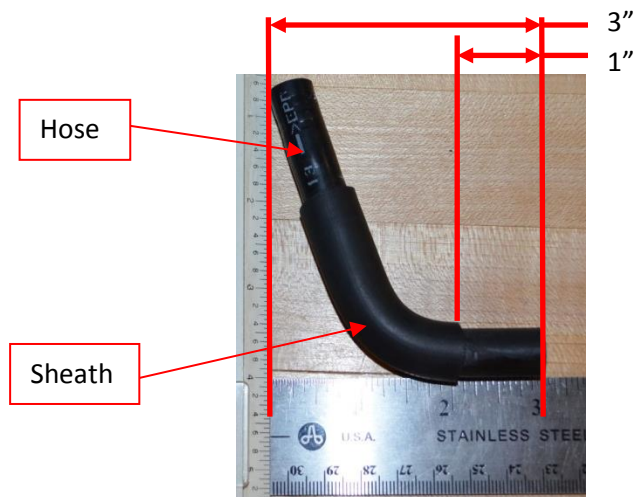

Figure 3: Hose Trimming
11. Per Figure 3, trim original brake reservoir hose using a new razor blade. Stoltec Moto highly recommends measuring twice and cutting once. Also, practice removing the outer rubber sheath on the cut off section of hose first! The sheath is thin and cuts easily – it is very easy to cut into the hose itself with doing this. If the original hose is cut during this operation, replace with a new hose from Yamaha. Bottom line: take time and caution so as not to damage the hose itself!!